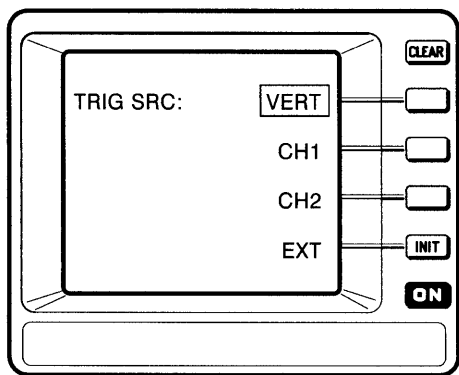

Figure 3-34: The Trigger Source Menu
- Step 1:** Press the **SOURCE** button in the trigger control area. A menu appears on the display, as shown in Figure 3-34.